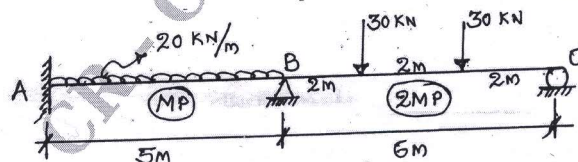

Fig.Q4(b)
- Calculate "plastic moment" for the beam as shown in Fig.Q4(b). Use load factor = 2. (06 Marks)